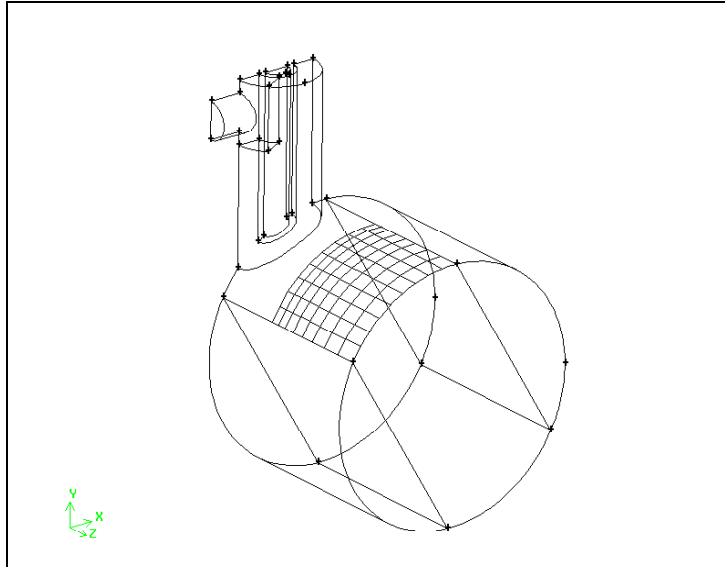

Figure 7-29: Edge on which to apply the boundary layer, showing the direction in which the boundary layer should point
- f) Select the edge shown in Figure 7-29 with the boundary layer on it. The boundary layer should appear in the direction shown in Figure 7-29. If it does not, *Shift-middle-click* the edge to change the direction of the boundary layer.